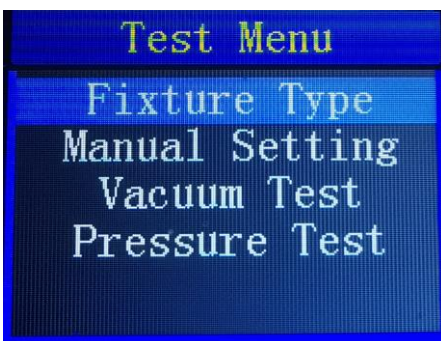

Figure 2
2. Enter the **Test Menu** and use the UP/DOWN button to select **Fixture Type** (Figure 2), confirm your selection with ENTER.